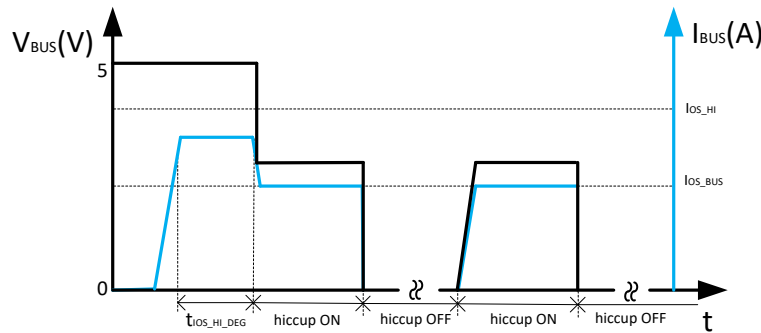

图 10-6. BUS Overcurrent Protection
- The second condition is the load current increases above I_{OS_BUS} but below the I_{OS_HI} setting. The device allows the USB port to output this large current for $t_{IOS_HI_DEG}$, without limiting the USB port current to I_{OS_BUS} . After the $t_{IOS_HI_DEG}$ deglitch time, the device limits the output current to I_{OS_BUS} and works in a constant current-limit mode. If the load demands a current greater than I_{OS_BUS} , the USB output voltage decreases to $I_{OS_BUS} \times R_{LOAD}$ for a resistive load, which is shown in 图 10-6. If the overcurrent limit condition lasts longer than 4.1 ms, the corresponding USB channel enters hiccup mode with 524 ms of off-time and 4.1 ms of on-time. Another USB channel still works normally.